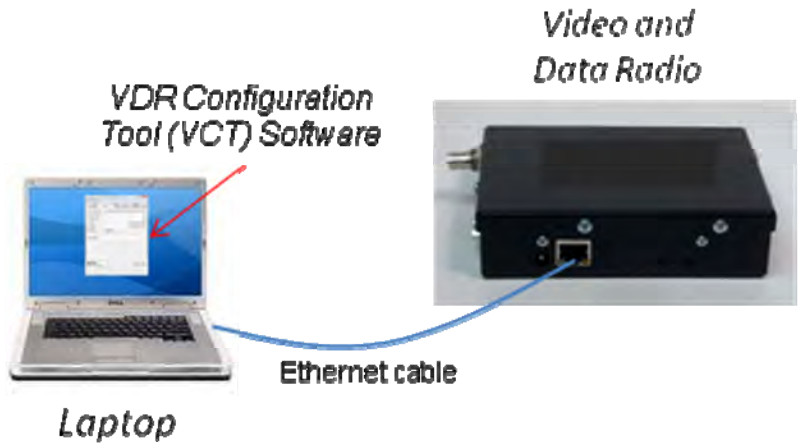

Figure 2: VDR Configuration
5. Connect a laptop to the VDR as shown in the Figure 2. Double-click on the icon below to start the VDR Configuration Tool.